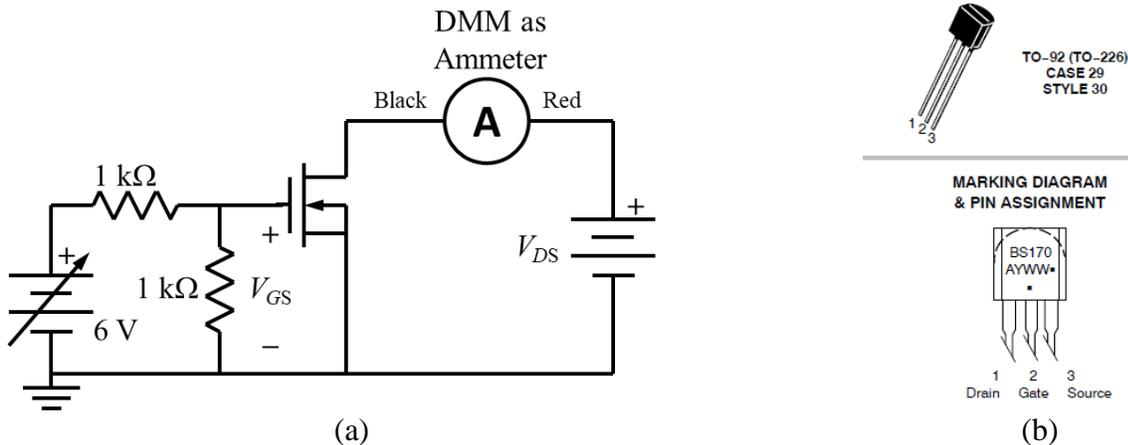

Fig. 1. NMOS transistor (a) test circuit and (b) package drawing.
2. Measure the BS170  $I_D$  vs.  $V_{GS}$  transconductance characteristics for constant  $V_{DS}$  using the circuit in Fig. 1 as follows.
- a. Construct the circuit in Fig. 1 using the +6V supply for  $V_{GS}$  and the +20 V supply for  $V_{DS}$ . Make sure the supplies are set to 0 V before connecting them to the circuit.
2. Measure BS170 common-source  $I_D$  vs.  $V_{DS}$  transfer curves for two constant  $V_{GS}$  values using the circuit in Fig. 1 as follows.